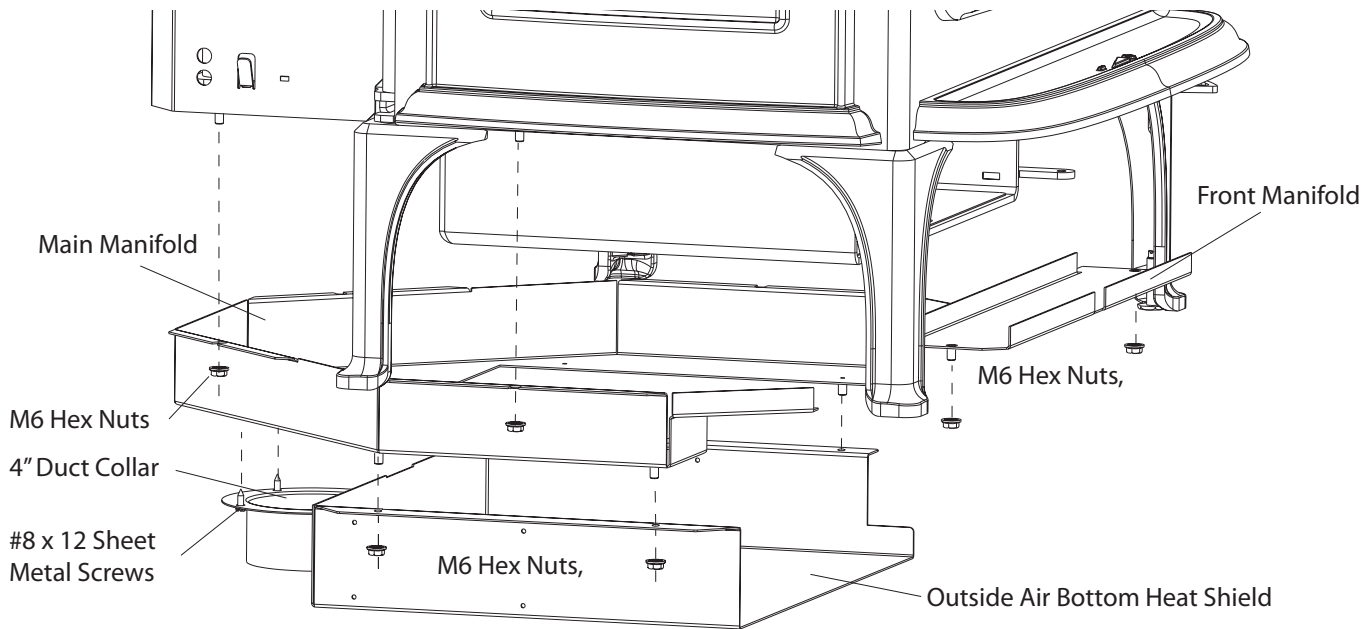

Figure 25. Outside Air Kit parts identification and orientation.
4. Orient the Front Manifold Panel as shown in figs. 25 and 26. Set it in place above the ash housing between the front legs of the stove.